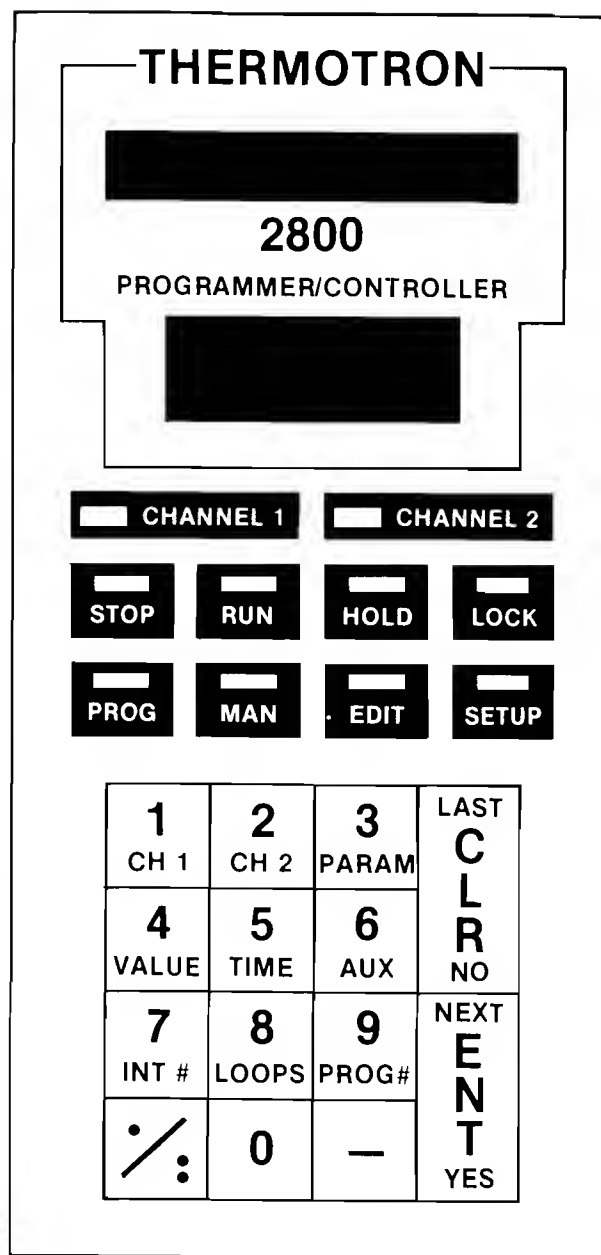

FIGURE 1
The alpha display (1) is on the top of the interface panel. This fourteen segment by ten character display is for English language prompts. See Figure 1.